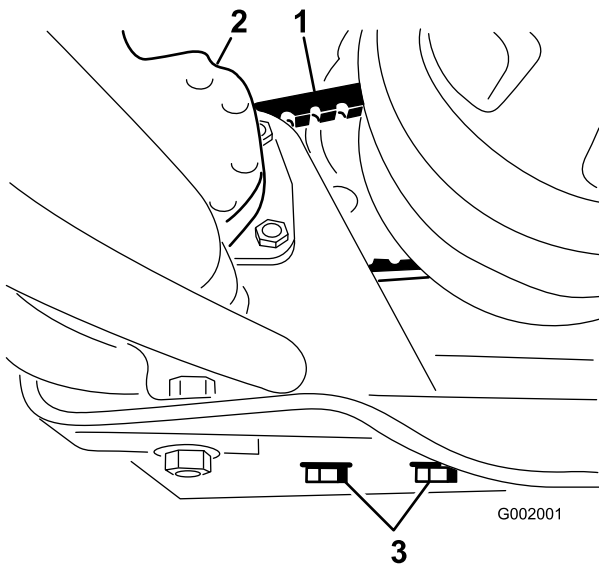

Figure 66
2. Loosen the steering pump mounting bolts (Figure 66).